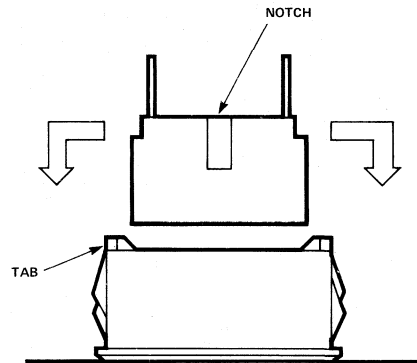

Figure 1. Installation of a Light Bar into a Panel Mount
2. Place the front of the mount against a solid, flat surface. A film legend with outside dimensions equal to the outside dimensions of the light bar may be placed in the mount or on the light bar light emitting surface. Press the light bar into the mount until the tabs snap over the back of the light bar[4]. When inserting the HLMP-2898, align the notched sides of the light bar with the mount sides which do not have the tabs. (See Figure 1)